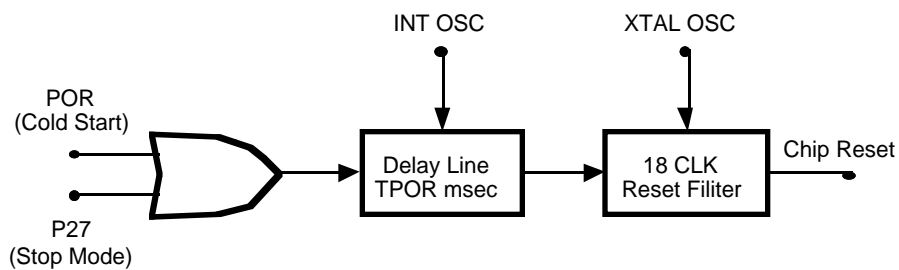

Figure 10. Internal Reset Configuration
**RESET.** This function is accomplished by means of a Power-On Reset or a Watch-Dog Timer Reset. Upon power-up, the Power-On Reset circuit waits for  $T_{POR}$  ms, plus 18 clock cycles, then starts program execution at address 000C (Hex) (Figure 10). The Z86E04/E08 control registers' reset value is shown in Table 3.